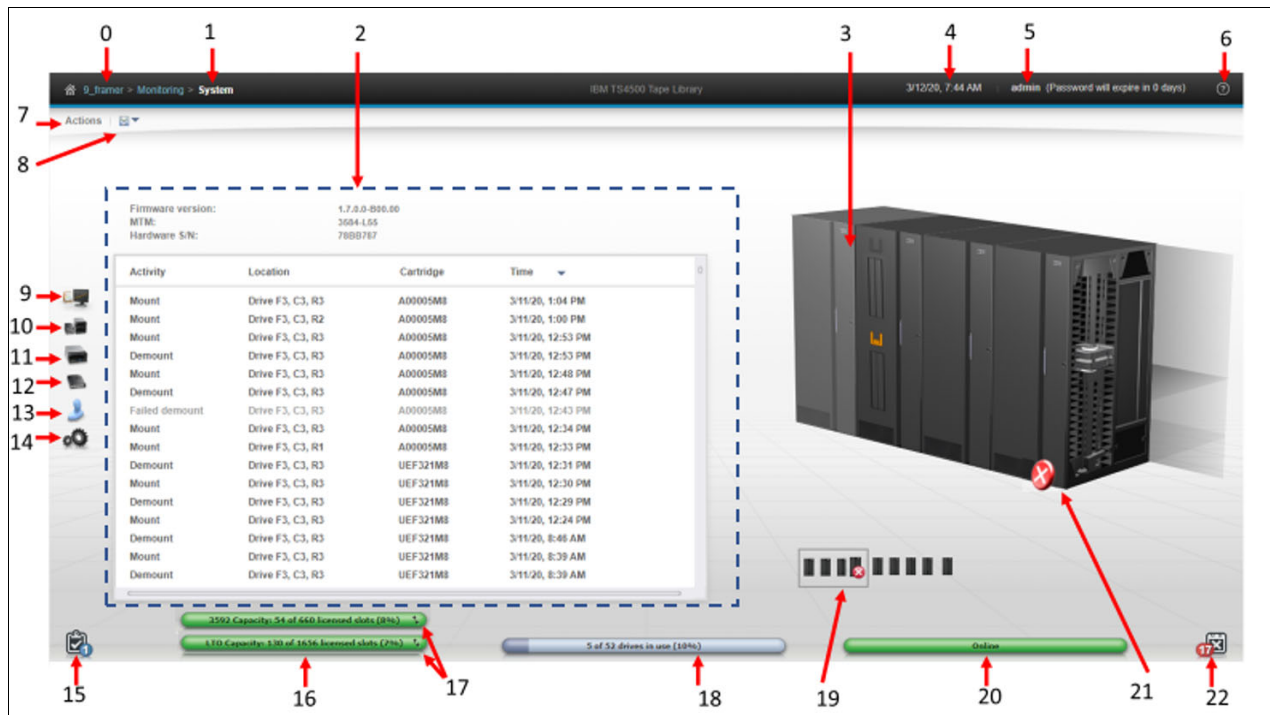

Figure 4-9 System summary display
After login, the system summary window is shown, as in Figure 4-9.
For more information about the Management Interface (MI) and the available functions, use the question mark (?) icon or **Help**, which is number 6 in Figure 4-9.
Table 4-3 lists the fields that are shown in the window. The numbers in Table 4-3 refer to the numbers that are shown in Figure 4-9 on page 205.